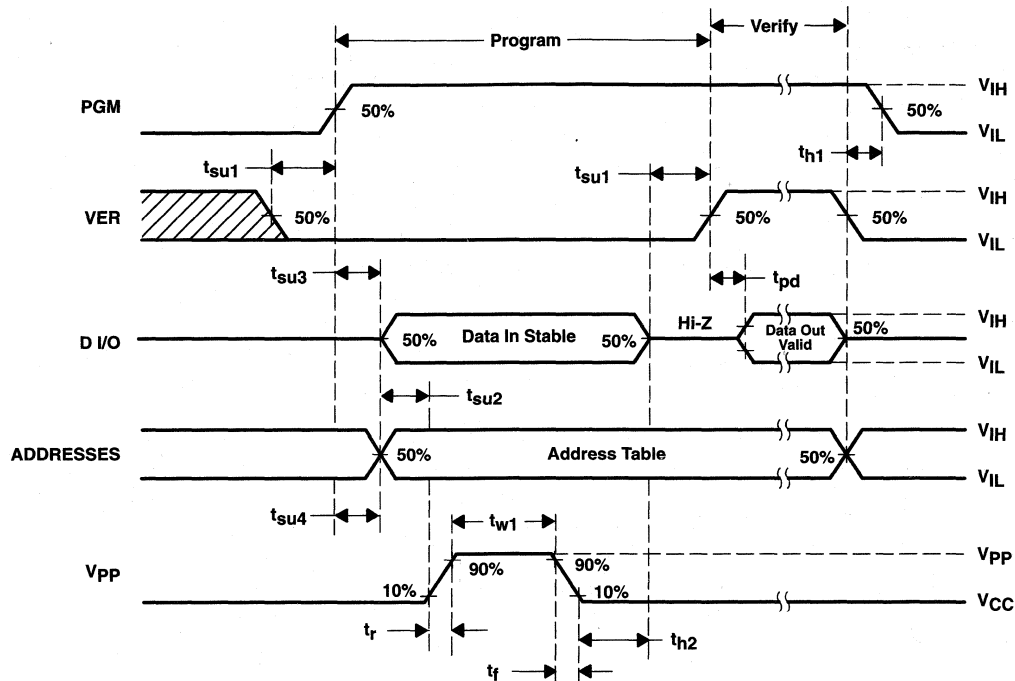

Figure 2. Programming Waveforms
2. For programming waveform, see Figure 2.